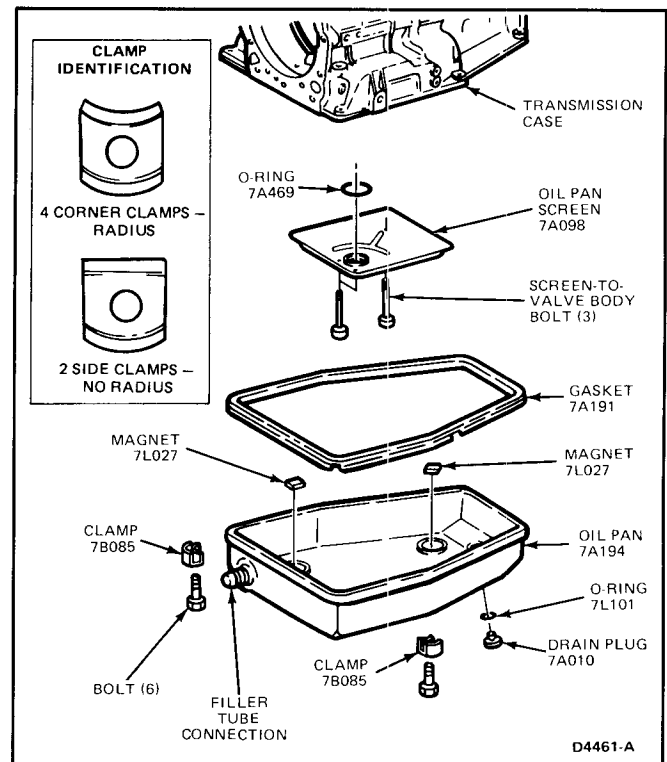

FIG. 4 Transmission Oil Pan, Screen and Gasket—Removal
2. Place a drain pan under the transmission fluid pan. Remove the oil pan plug and allow the fluid to drain (Fig. 4).
5. Remove three Torx head bolts retaining fluid pan screen and remove screen (Figs. 4 and 5).
6. Clean the filter screen with solvent. If required, install a new O-ring onto the inlet of the oil screen. Install the oil screen using three Torx head bolts (Figs. 4 and 5) and tighten to 8 N·m (71 lb-in).
7. If required, place a magnet into the indentations in the oil pan (Fig. 4).
8. Install the fluid pan gasket on the fluid pan (Fig. 4). Install the long clamps on all four corners and the short clamps on both sides of the fluid pan. Install six 10mm bolts and tighten to 5.9-6.1 N·m (52-54 lb-in).